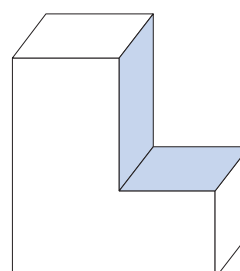

Fig.6
- Slide the Pro Cut corner cutter from above into the right side profile (No.14) of the ProCut foam board cutter until the corner cutter is flush with the upper edge of the foam board cutter (Fig. 6).